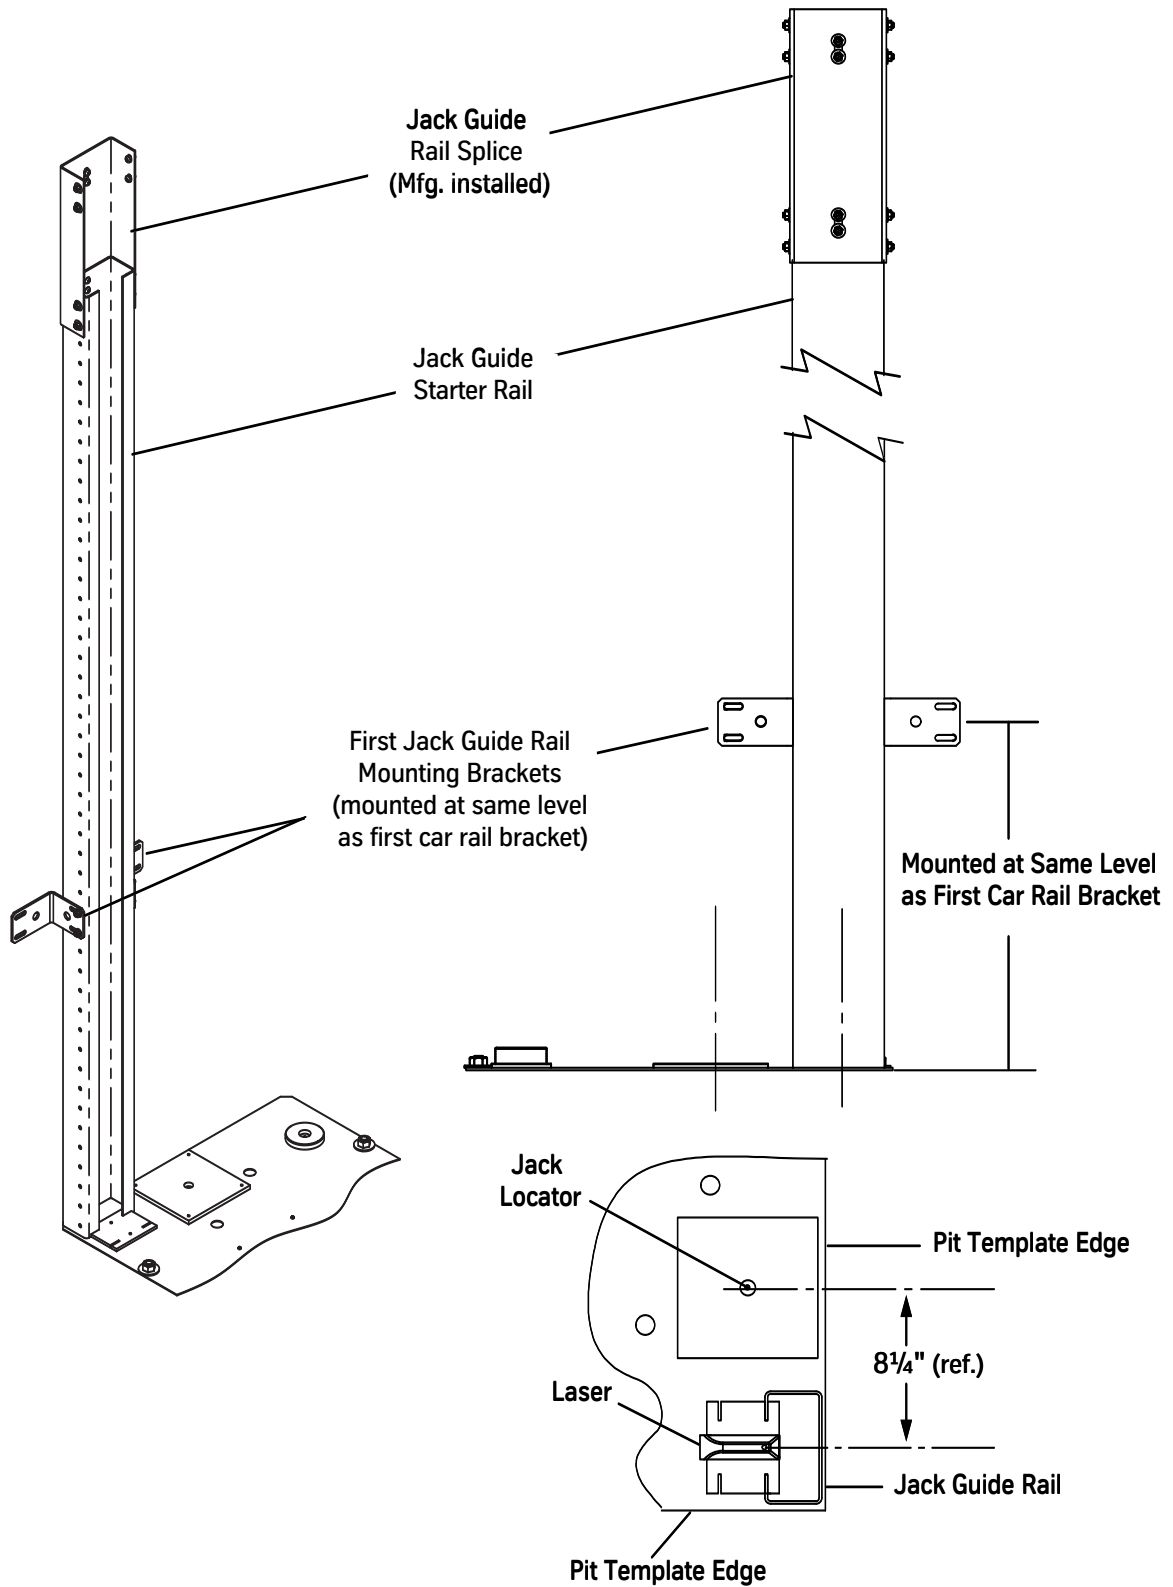

Figure 25 - Jack Guide Rail Installation
1. Attach the 8'-long jack guide rail (with a manufacturing-attached splice jack guide rail) to the mounting brackets on the starter rail at the same elevation and corresponding mounting surface as the first car rail bracket. See Figure 25 on page 49.